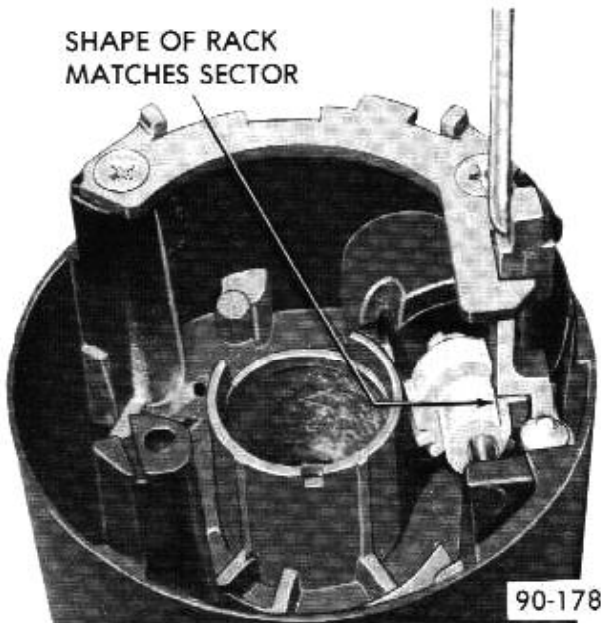

Figure 90-101 - Rack and Lock Bolt Assembled to Sector
5. Insert the rack and lock bolt into the housing from the bottom with the teeth up (toward steering wheel) and toward the centerline of the column. See Figure 90-101.